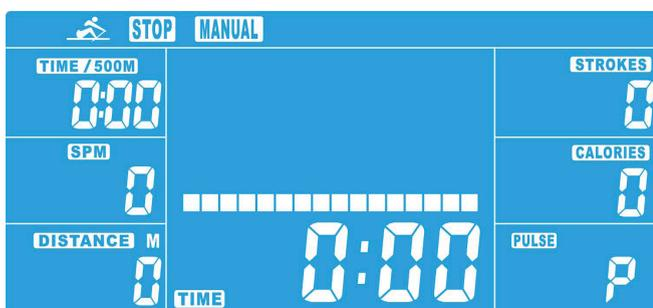

figure 2
- 2) Place the seat (25) on the sliding beam (19). Now assemble the two square buffers (61) to the sliding beam (19), using a hex nut (96) and hex bolt (85) - see figure 2.
3. Press the UP or the DOWN button to set a target value for TIME/DISTANCE/CALORIES and PULSE. Confirm each entry with the ENTER button (fig. 2); TIME and DISTANCE can not be set simultaneously.